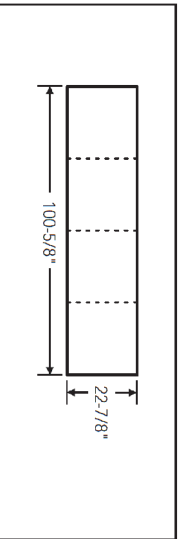

Figure 3b
- ii.) For 2'x2' fixtures, use the 24-5/16" ceiling opening length for an individual fixture and add 25-7/16" for each additional fixture being included in the row. (Example: If the application required 4 fixtures in the row, the ceiling opening would be 22-7/8" wide by 100-5/8" long. The length is determined by adding 24-5/16" + 25-7/16" + 25-7/16" + 25-7/16". (See Figure 3b)